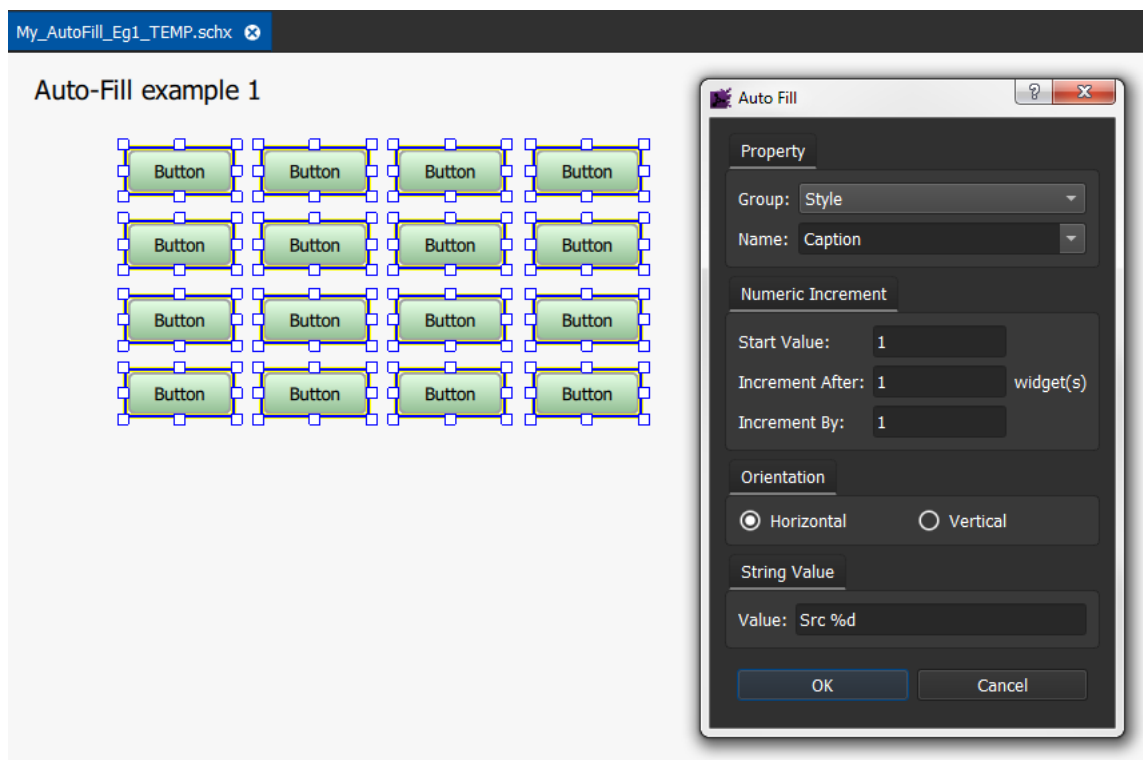

Fig. 3-32: Auto-Fill Dialog
In this example, **Auto-Fill** is used on a single property of multiple widgets. 16 button widgets arranged in a 4 x 4 grid on an Orbit screen are used. See Figure 3-32. This example will re-label the 'Caption' property of all the buttons to be "Src 1", "Src 2", ..., "Src 16".
- 2 Click the **Auto-Fill** icon to show the Auto-Fill dialog. See Figure 3-32.